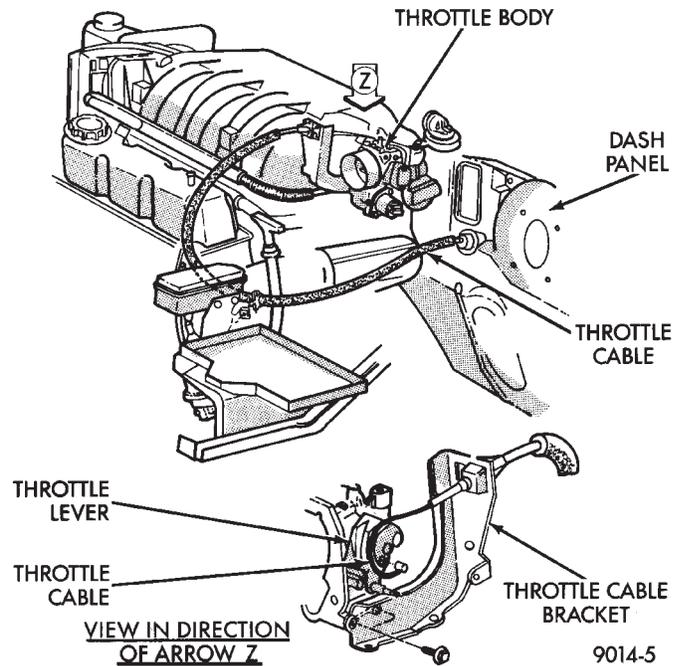

Fig. 3 Throttle Cable Attachment
- (4) Remove throttle cable (Fig. 3). Remove wiring harness from throttle cable bracket.